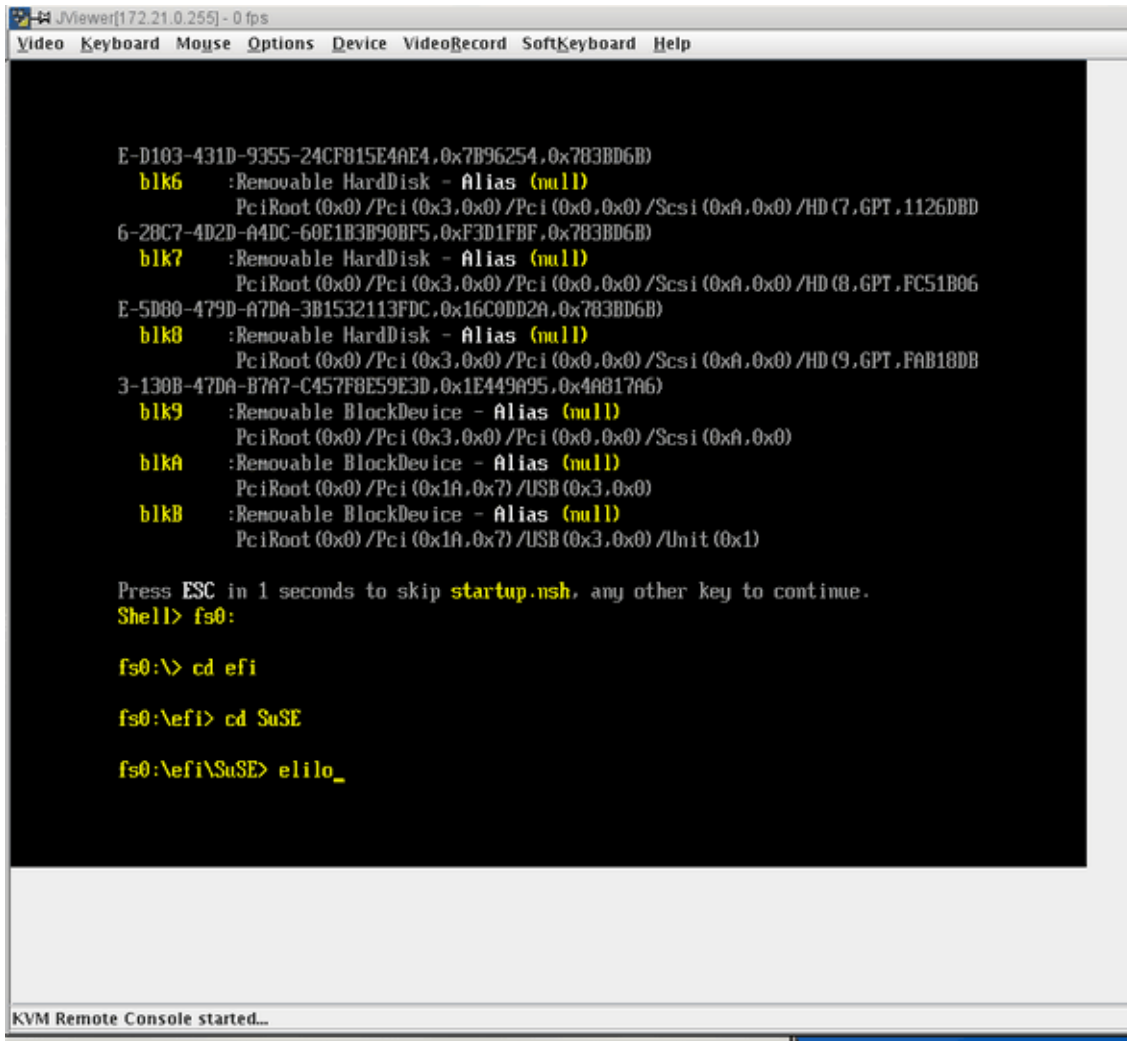

Figure 3-9 Booting the Operating System from the **JViewer Shell>** Prompt Screen
12. From the **Shell>** prompt issue the following commands, as shown in Figure 3-9 on page 46: